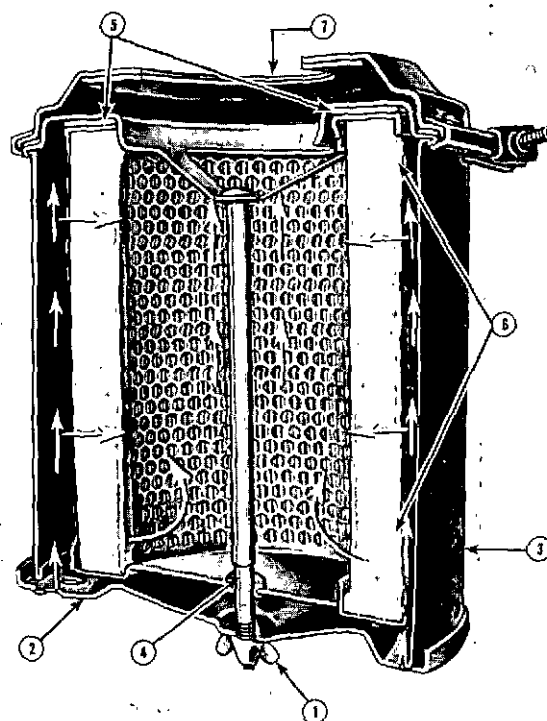

Fig. 5-6. Air cleaner — dry type
The paper element (6, Fig. 5-6) in a dry-type air cleaner (3) may be cleaned several times by using a compressed air jet to blow off dirt. Do not hold air jet too close to paper element or damage to element will result. Wing nut (1) secures bottom cover (2) to housing with center bolt (4). When installing element, make sure it seats on gasket at air cleaner outlet end (7).